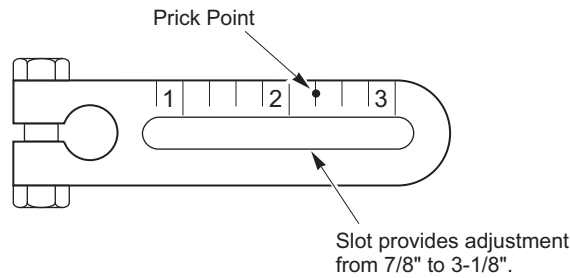
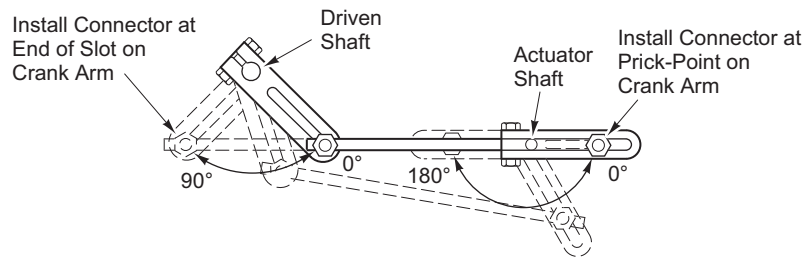

Figure-3 Location of Prick Point on Crank Arm.
Figure-4 180° Actuator Rotation Driving a Damper Rotation of 90°.
3. Install a linkage connector onto the actuator shaft crank arm, at the prick point. Refer to (Figure-3) and (Figure-4).
4. Install a linkage connector onto the driven shaft crank arm, at the end of the slot. Refer to (Figure-4).